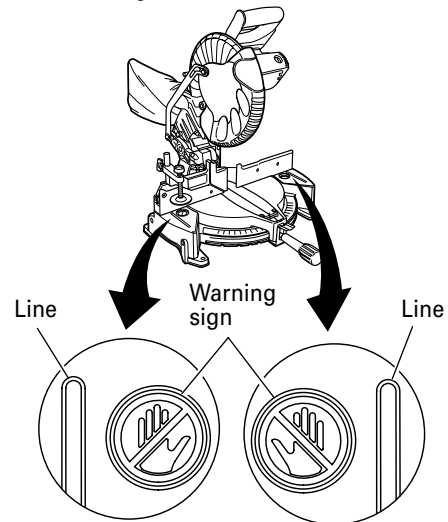

Fig. 18
- * Never place your limbs inside of the line next to warning sign while the tool is being operated. This may cause hazardous conditions (see Fig. 18).